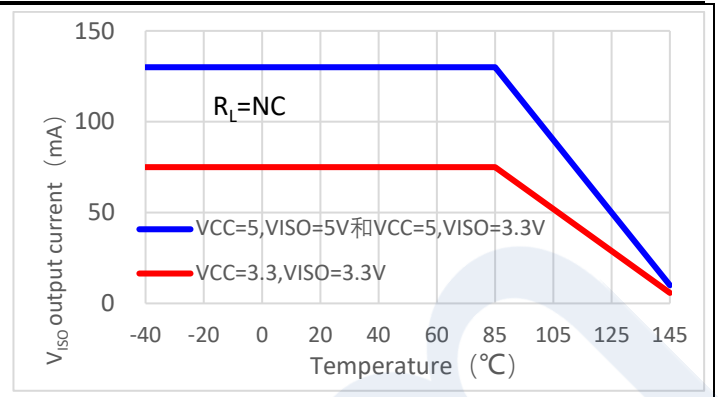
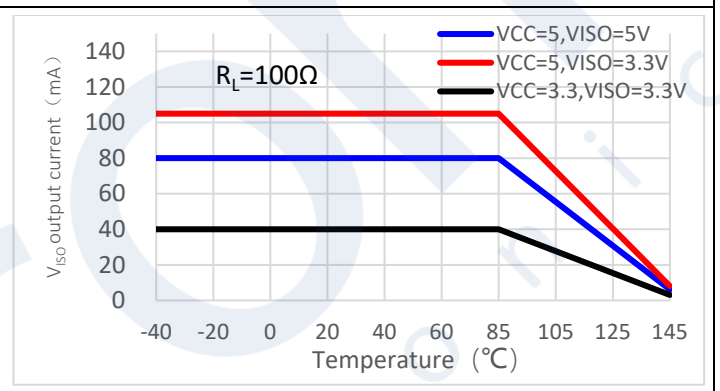

Figure 7-14.
Figure 7-16.
1. $DE = V_{CC}$, $\overline{RE} = 0V$, $DI = 0V$ or V_{CC} ; The available output current from V_{ISO} will be reduced when $T_A > 85^\circ C$, see Figure 7-14, Figure 7-16, Figure 7-18, the maximum output current of V_{ISO} vs. temperature.
The maximum output current from V_{ISO} is shown as Table 9-6. Note that the I_{ISO} value in Table 9-6 is the maximum output current at +25°C with data rate x load capacitance < 0.5Mbps x 2nF for CA-IS3092W/CA-IS3092VW (20Mbps x 200pF for CA-IS3098W/CA-IS3098VW). As the increase of temperature, especially when the temperature exceeds +85°C, the maximum load current will be decreased, see more details in Figure 7-14, Figure 7-16, and Figure 7-18.